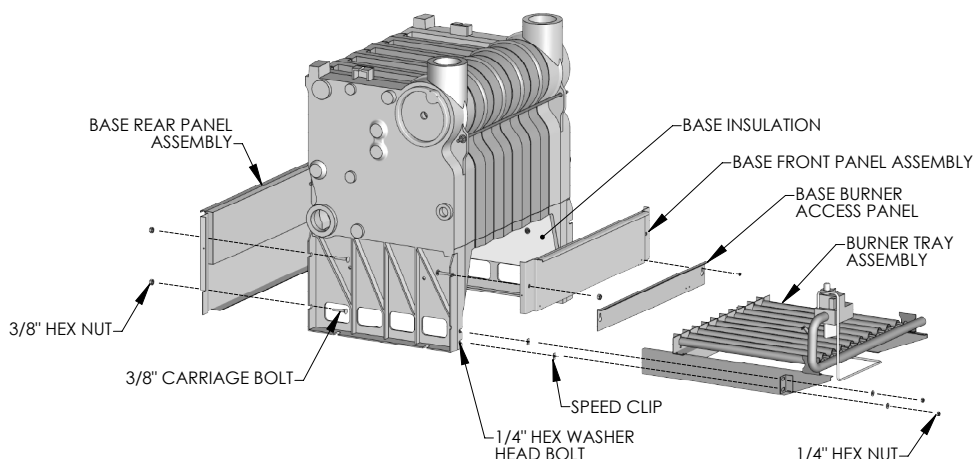

Figure 2.2: Base Panel Attachment
3. Attach the base front/rear insulated panels to the cast iron block assembly as shown in Figure 2.2 using 3/8" carriage bolts and 3/8" hex nuts.
5. Slide the burner tray under the cast iron block assembly and attach to the end sections using the 1/4" carriage bolts and nuts provided. (See Figure 2.2).
6. Attach the base burner access panel to the base front panel assembly with two #10 x 1/2" sheet metal screws (See Figure 2.2).